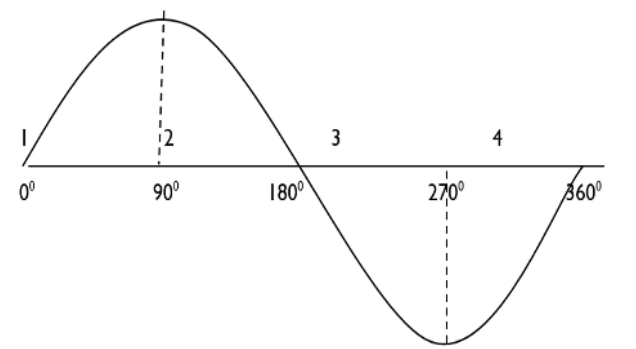

Figure 1.3.2: Single-phase sinusoidal voltage waveform
6. This completes one full sine wave cycle of alternating current, as shown in **Figure 1.3.2**.